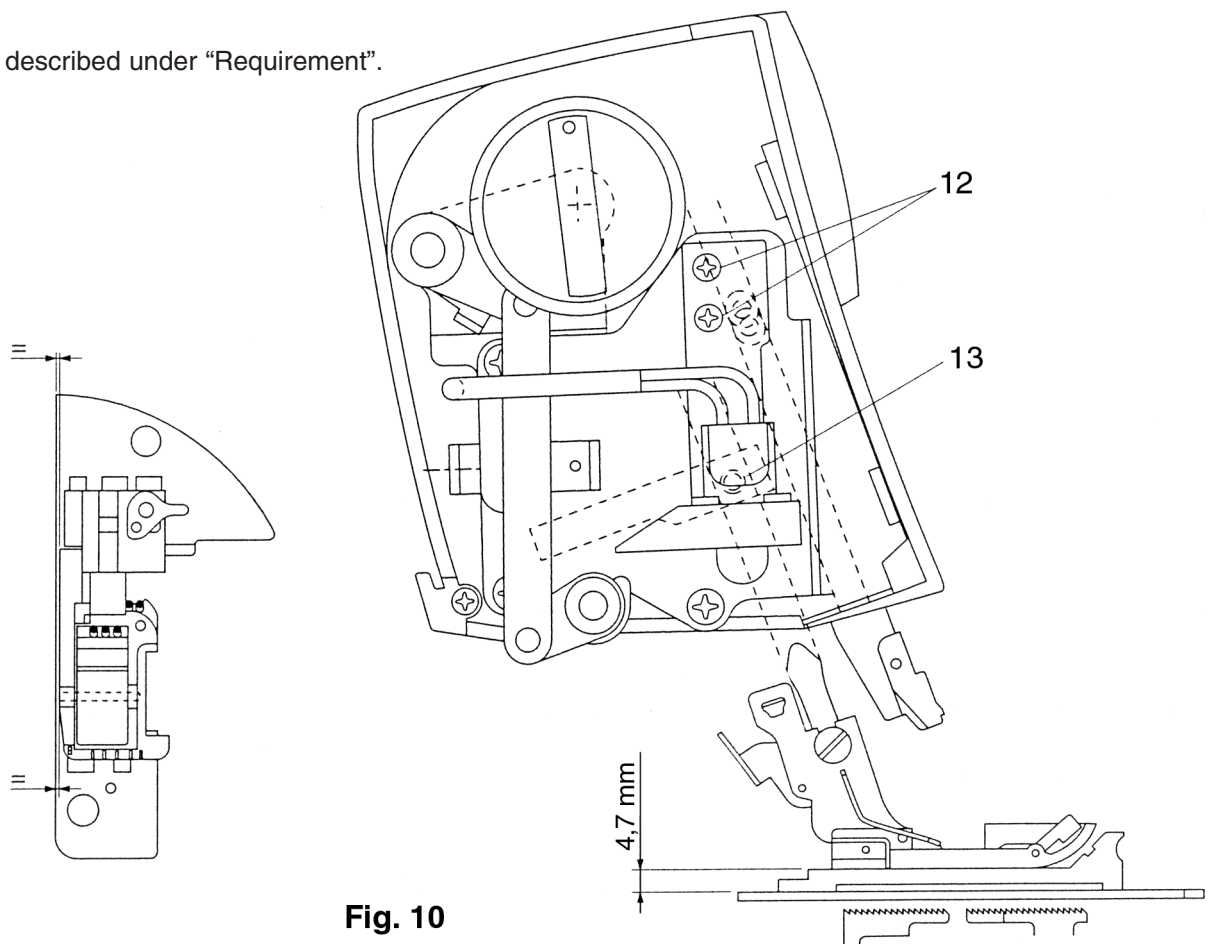

Fig. 10
- With the presser bar lever raised, slide the adjustment gauge under the presser foot as in figure 10.